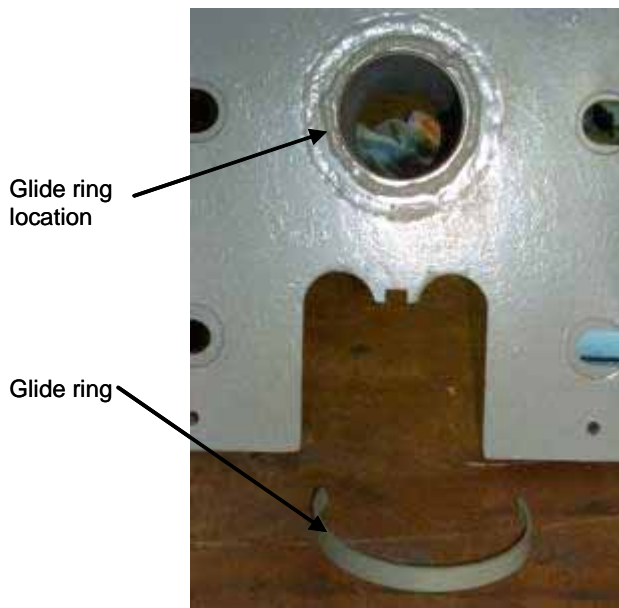

Figure 34. Placement of glide ring, bottom view of weight package.
2. Install the glide ring on the drop weight assembly (a new feature not found on older models). This glide ring prevents metal chaffing from occurring between drop weight package and the main cylinder. After disassembly and during assembly, apply a small amount of grease to the glide ring (figures 34 and 35). Thereafter, lubricate weekly with a spray silicone.